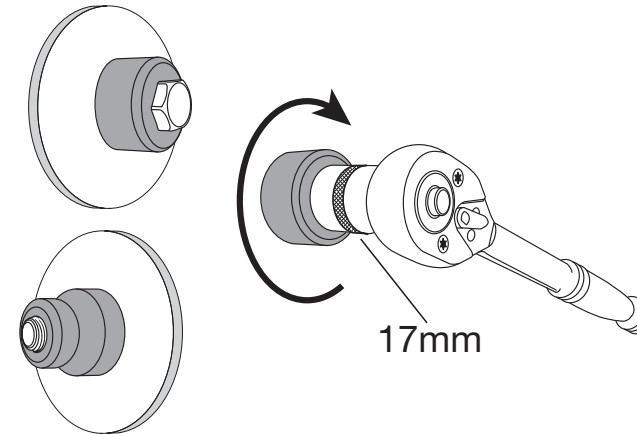

Figure 4
4. Refer to Figure 4: use a 17mm socket or spanner and tighten screw nut clockwise to force the hole punch through the bumper panel material.